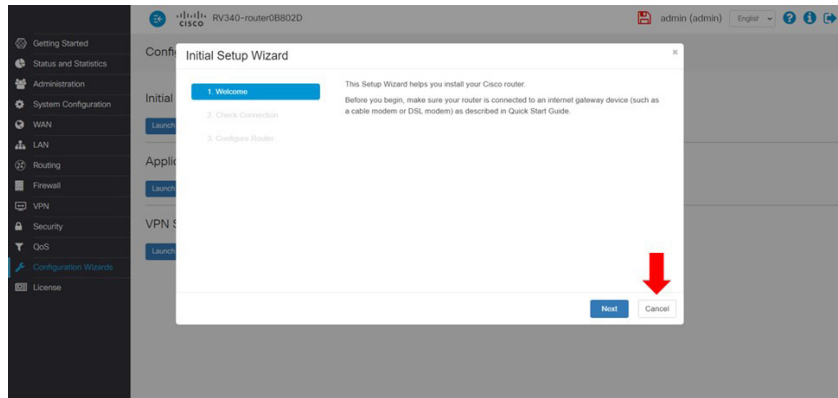

Figure 8
8. After signing in, you will now be able to configure the settings of the router and should see a screen as shown below. (Figure 8)